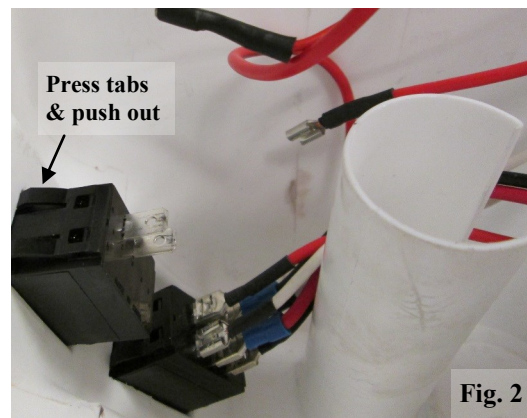

Fig. 2
4. Compress the securing tabs on the switch and carefully push out through the cover using a back-and-forth motion, one end at a time (Fig. 2).